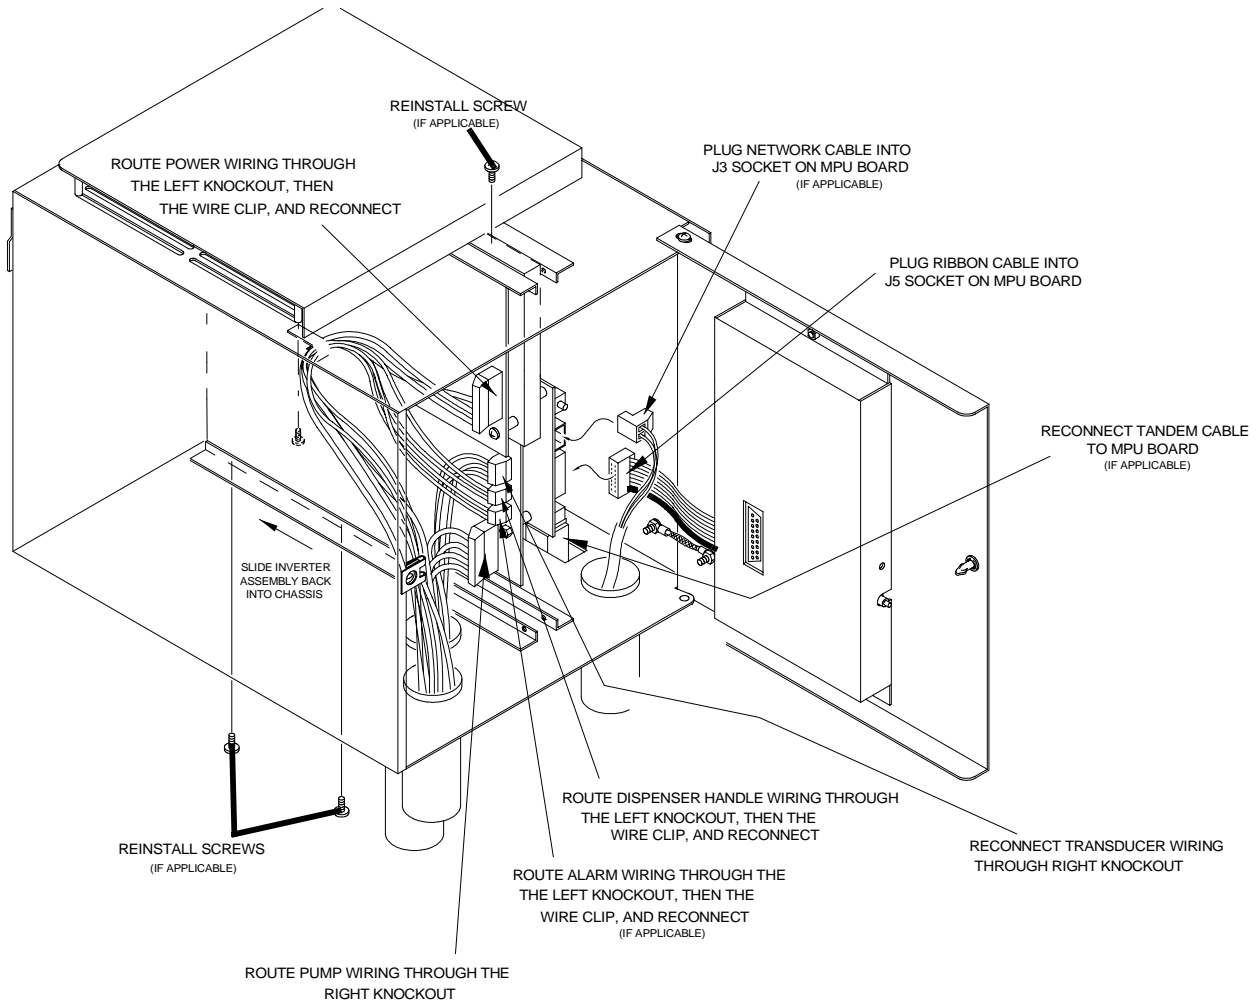

Figure 3 Reinstalling and reconnecting the inverter assembly
- 13 Reconnect the AC input and dispenser signal wiring by routing through the left front conduit, up through the clip and down to the proper connectors. (Refer to *figure 3*)
- 14 Route the pump wiring and transducer cable through the right rear conduit and reconnect to the proper terminals. See *figure 3*.